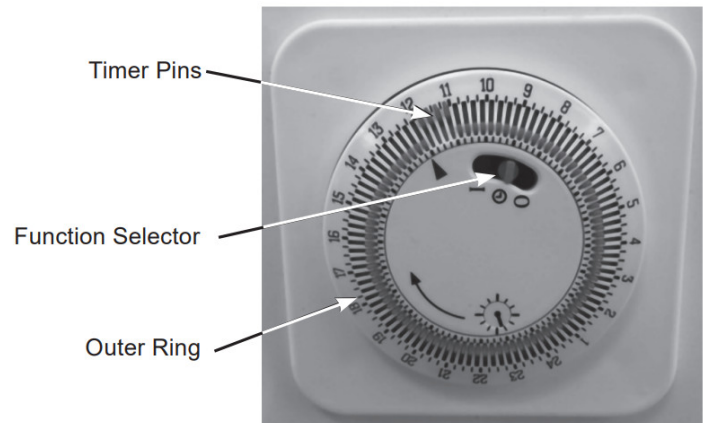

fig.3
45. TIMER FUNCTION (fig.3)
4.5.1, To activate timer function, turn the outer ring clockwise (fig.3) to set the correct current time. This will need to be repeated every time that the heater is reconnected to the power supply.
4.5.2, The function selector switch (fig.3) has three positions:
4.5.3, To select the time during which the heater is active, move the timer pins (fig.3) outwards for the period required. Each pin is equal to 15 minutes